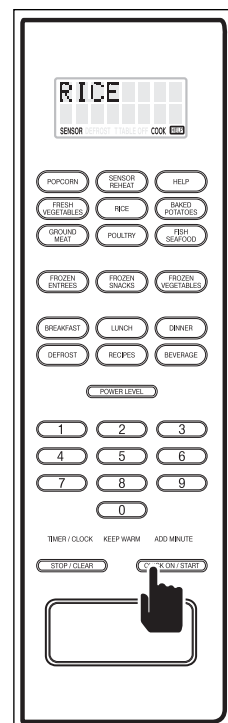

Figure 3-61.
2. Press the QUICK ON/START key. In this example, “RICE - SENSOR COOK” flashes on the display and the microwave is energized. (See Figure 3-61) When the sensor in the oven senses enough steam from the food, it will switch the microwave oven off, “END” will flash on the display and the alarm will beep.